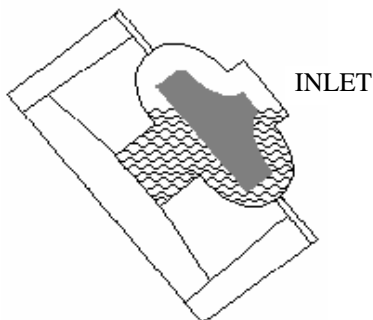

FIGURE 1: BEST ORIENTATION
3. Cut out the required section of the radiator hose. Connect the pump inlet and outlet to the appropriate hoses. Connect the pump inlet and outlet to the appropriate hoses ensuring that the pump is oriented in the BEST CORRECT ORIENTATION as shown in Fig 1, page 6 "BLEEDING THE EWP®" during bleeding. Ensure hose clamps are tight.